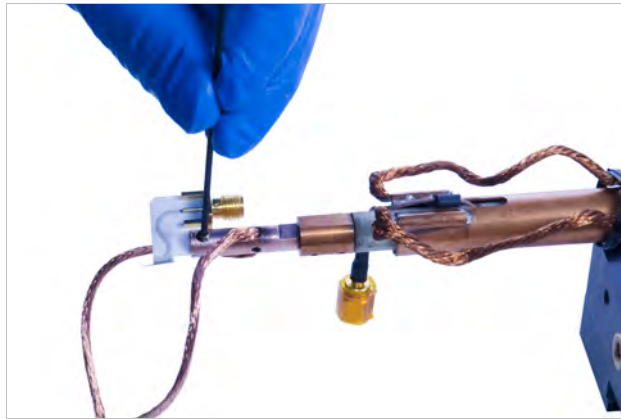

FIGURE 3-38 Loosening the probe mount set screws
4. Using the 1.5 mm hex driver, loosen the visible probe mount set screw (FIGURE 3-38).